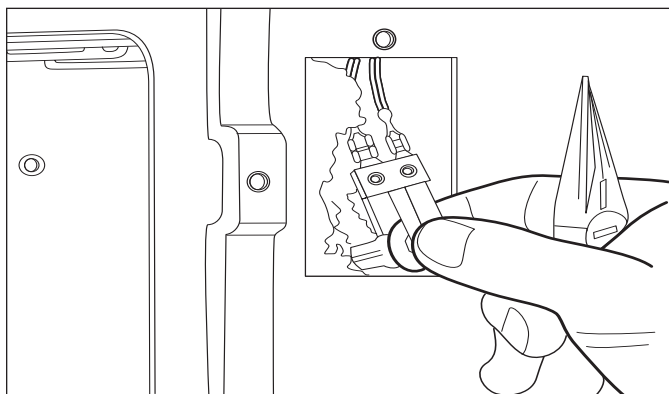

Figure 4-28. Probe Switch Removal.
**NOTE:** To remove the probe switch the unit will need to be pulled from its installation approximately 8 inches. Next, extract the screw and remove the access panel for the probe switch. Now, pull the switch from the oven cavity and disconnect the wires from the switch terminals. (See Figure 4-28).